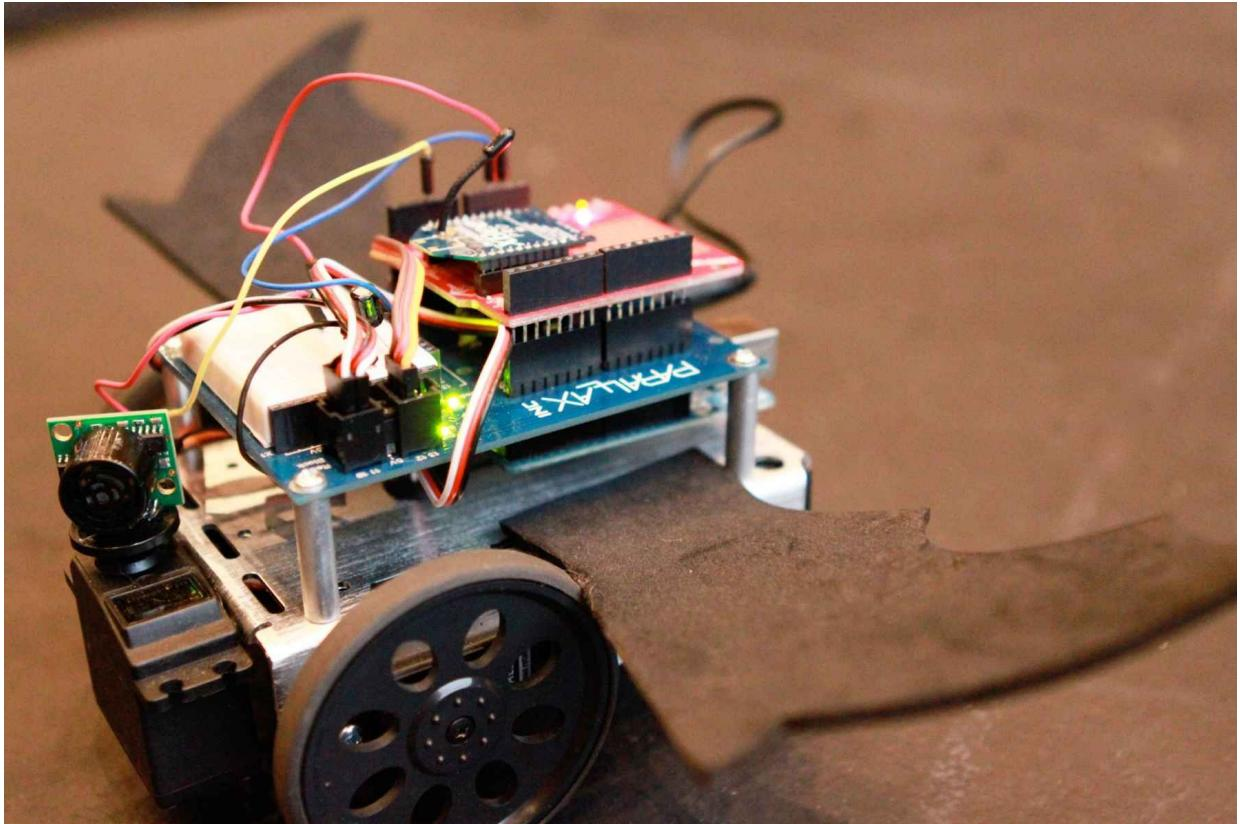

Figure 12-4. Servo attached to batbot
4. Attach your standard servo to the front of your bot using hot glue, as shown in Figure 12-4. Be sure to attach the servo in such a way as to ensure that the sonar will rotate left to right, pointing ahead of the robot.